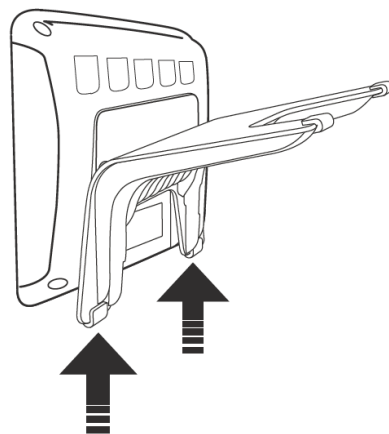

Fig. 3
2. Push the footstand upwards onto the slideguides until they lock in place (Fig. 3).